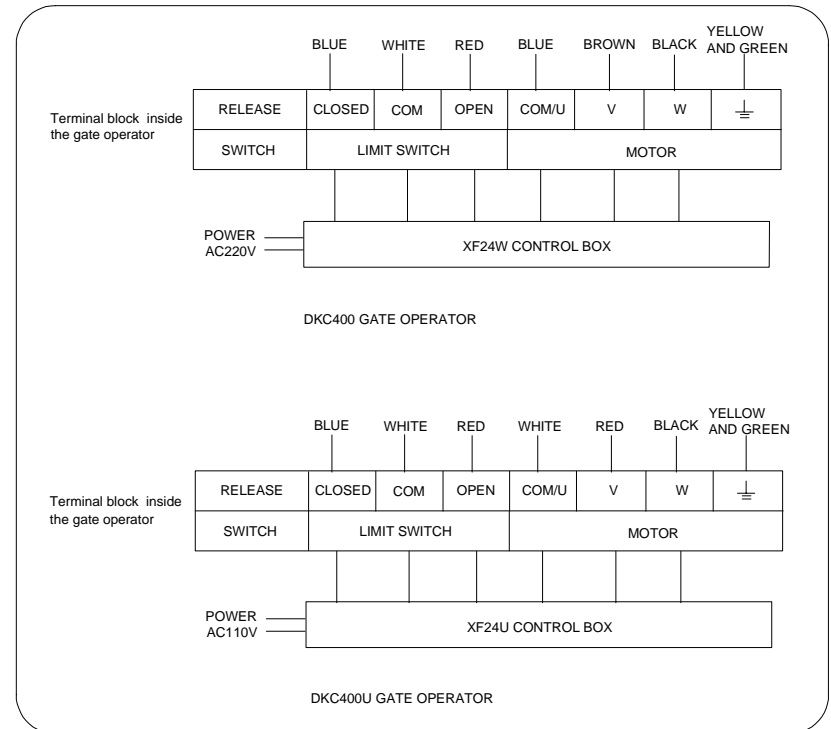

Fig.13
The DKC400(U) has a terminal block, Fig.13 shows the wiring of motor and limit switch, the DKC400(U) is not equipped with control box, the control box (XF24W or XF24U) can be purchased through your dealer.